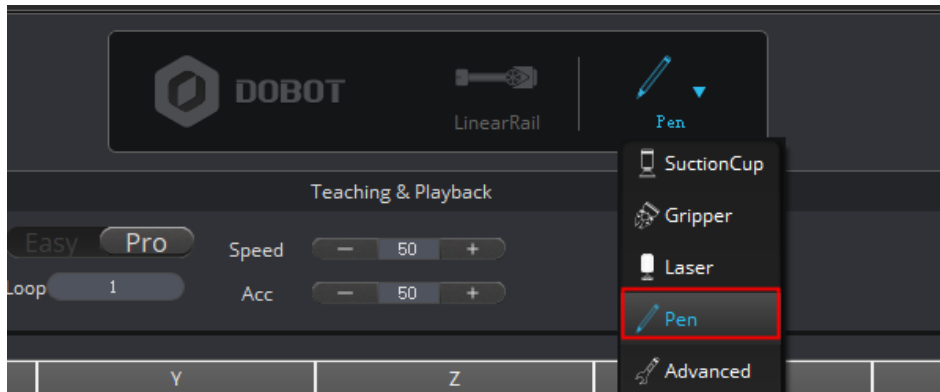

Figure 5.205 Select end-effector
- Step 1** Select **Pen** from the end-effector drop-down list on the DobotStudio page, as shown in Figure 5.205.